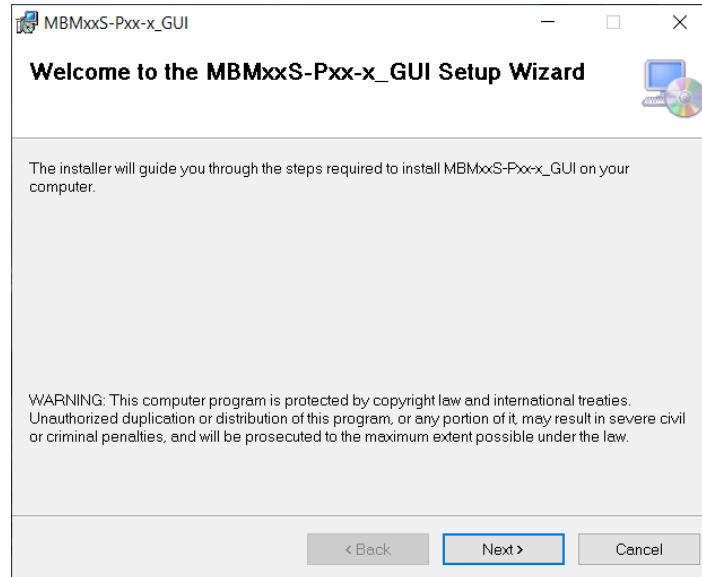

Figure 17: MBMxxS-P50-x GUI Set-Up Guide
2. Double click the “.msi” file to open the set-up guide (see Figure 17).